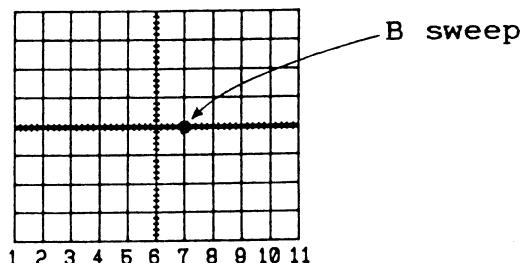

Figure 3-2
- Position the B sweep(intensified portion on the A sweep) to the 7th vertical graticule line using DLY TIME MULT dial as shown in Figure 3-2.